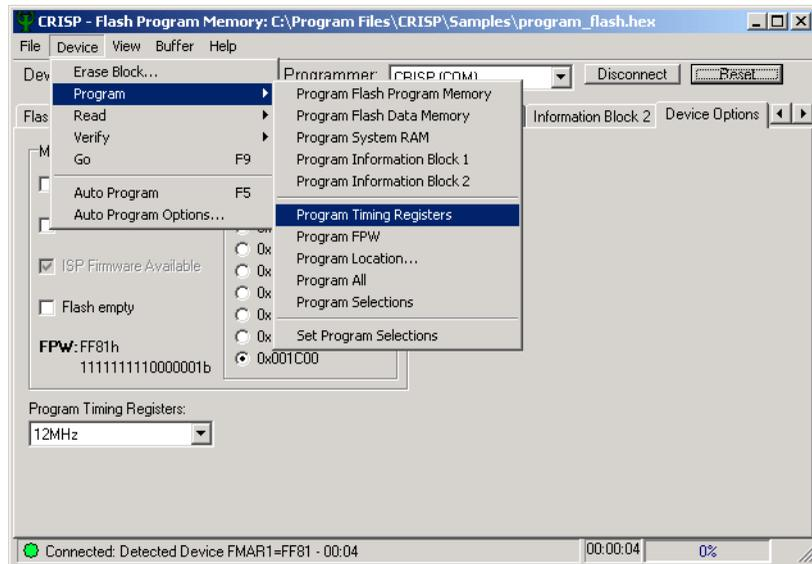

Figure 5-7. Programming the Flash Timing Registers
- Program Flash Timing Registers.** Write the flash timing registers in the CP3UB17/CP3CN17 device by selecting the Device -> Program -> Program Timing Registers command, as shown in Figure 5-7.